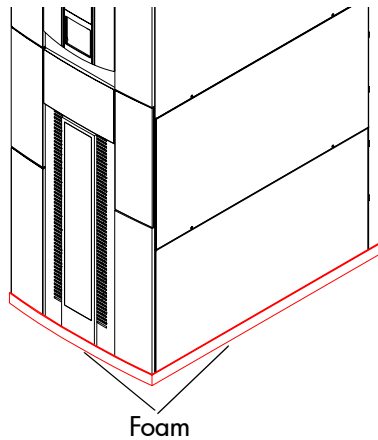

Figure 13: Removing the shipping foam from the library perimeter
3. Remove the shipping foam from around the bottom perimeter of the library (see Figure 13).